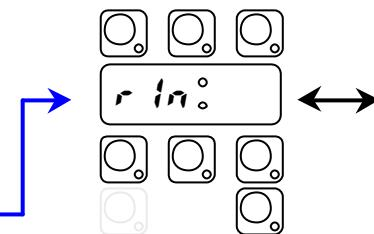
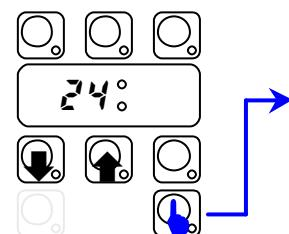

Fig. 3.4
Fig. 3.5
- After settled the duration press CYCLE_INFINITE key to store value. The display shows the next parameter (Fig.3.4) and the corresponding value (Fig.3.5);